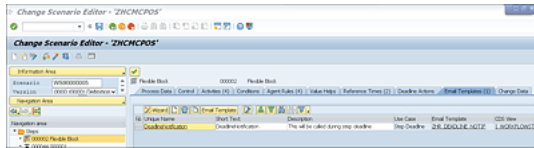

Figure 16.10 Scenario: Email Template
3. Save and activate the scenario in Transaction SWDD_SCENARIO. You can see the newly created template in the **Email Templates** tab in this scenario, as shown in Figure 16.10.